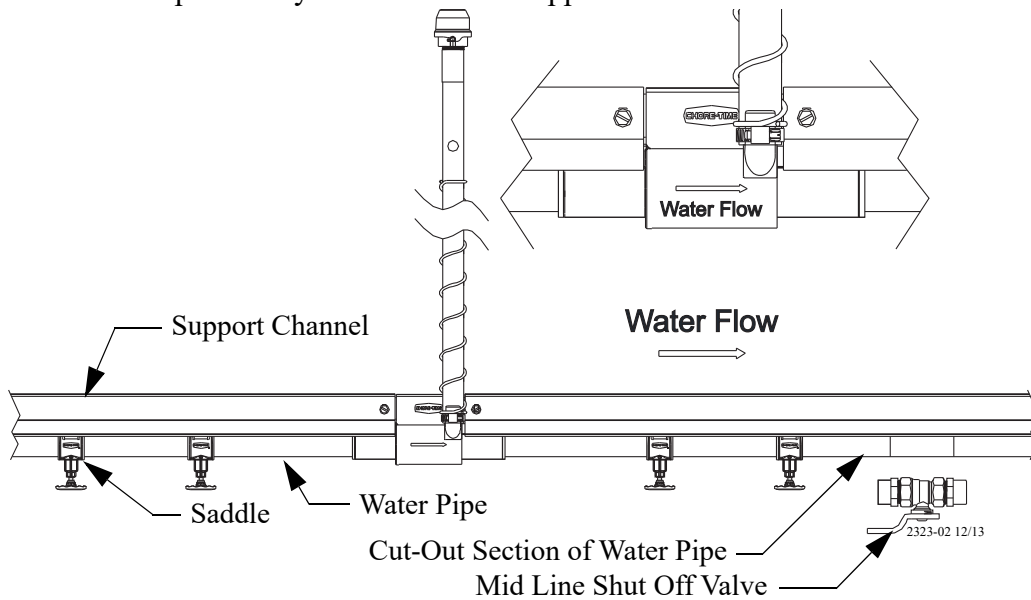

Figure 25. Mid Line Shut-Off Valve Installation
3. Use PVC pipe cutters to cut a section out of the water pipe. See **Figure 25**. The shut-off valve may be used as a template to determine the required size of the cut.